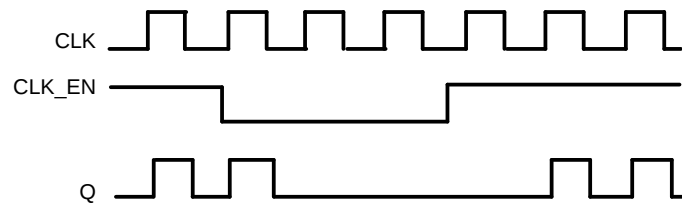

Figure 4. CLK\_EN Control Timing Diagram
2. The CLK\_EN control input synchronously enables or disables the outputs as shown in Figure 4. This control latches on the falling edge of the selected input CLK. When CLK\_EN is LOW, the outputs are disabled in a LOW state. When CLK\_EN is HIGH, the outputs are enabled as shown. CLK\_EN to CLK Set up and Hold times must be satisfied.